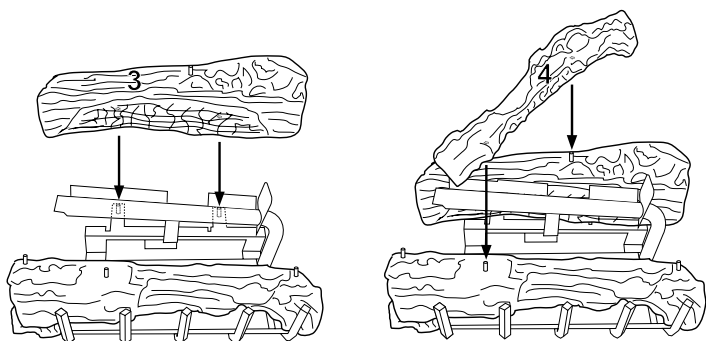

Figure 42 - Installing Log No. 3 Figure 43 - Installing Log No. 4
3. Place log #3 (rear log) onto pins on rear of grate as shown in Figure 42.